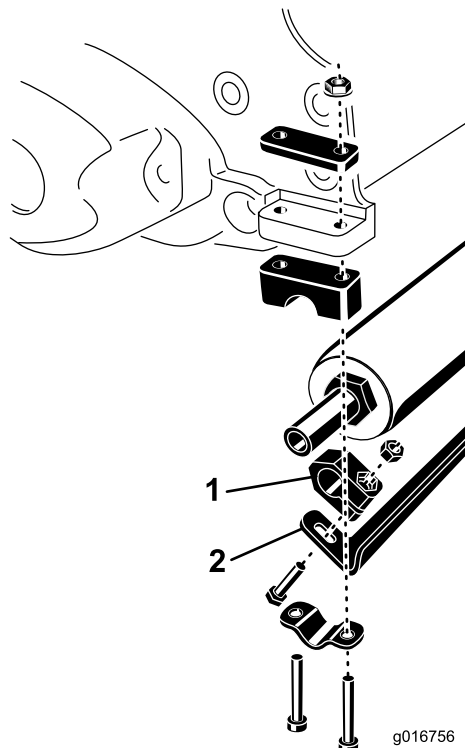

Figure 2
3. Loosely install the roller scraper to each end of the roller with a clamp block, capscrew and nut. Position the components as shown in Figure 2.
4. Loosely install the roller to the cutting unit with the capscrews, clamps and nuts previously removed (Figure 2).
5. Center the roller on the cutting unit and tighten the roller clamp capscrews and nuts (Figure 2).